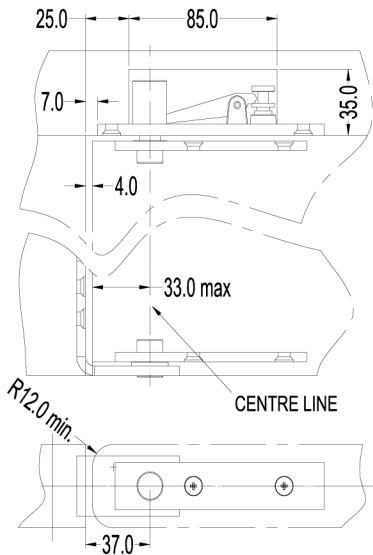

Fig. 1
Note: For correct operation of this pivot set, the door must be prepared with rounded edges **as show in Fig. 1**. Determine a position for pivot set centre line in door, noting this line must not exceed 33mm from door edge. Maximum dimension of 33mm will allow for a 4mm gap between door and frame. **(See Fig. 1)**
2. Cut out a hole of 85x35x20mm in frame head to accept the top frame bracket. **(See Figs. 1 & 2)**